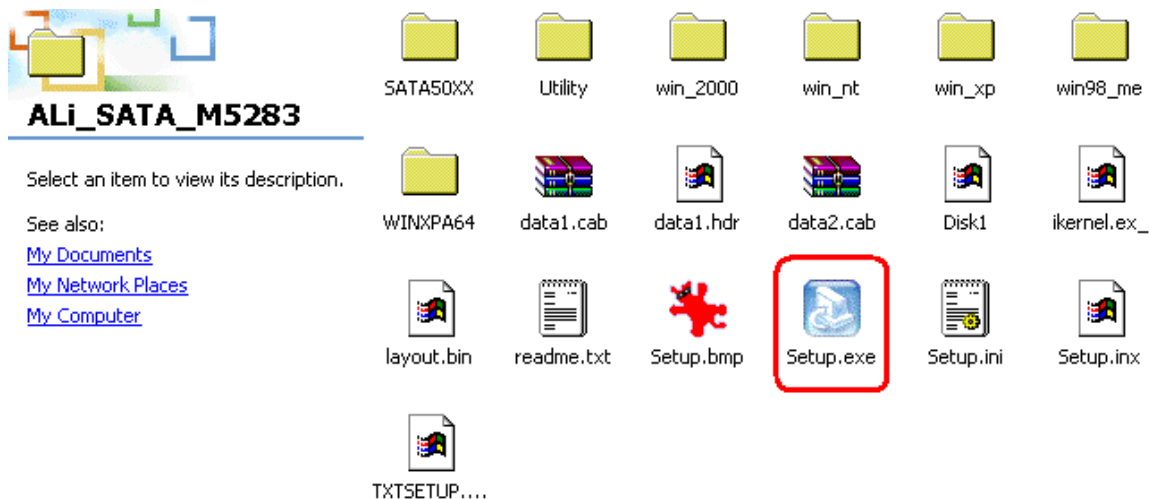

Figure 6-25: Locate the Setup Program Icon
Step 2: Locate the **Setup** program icon (**Figure 6-25**).